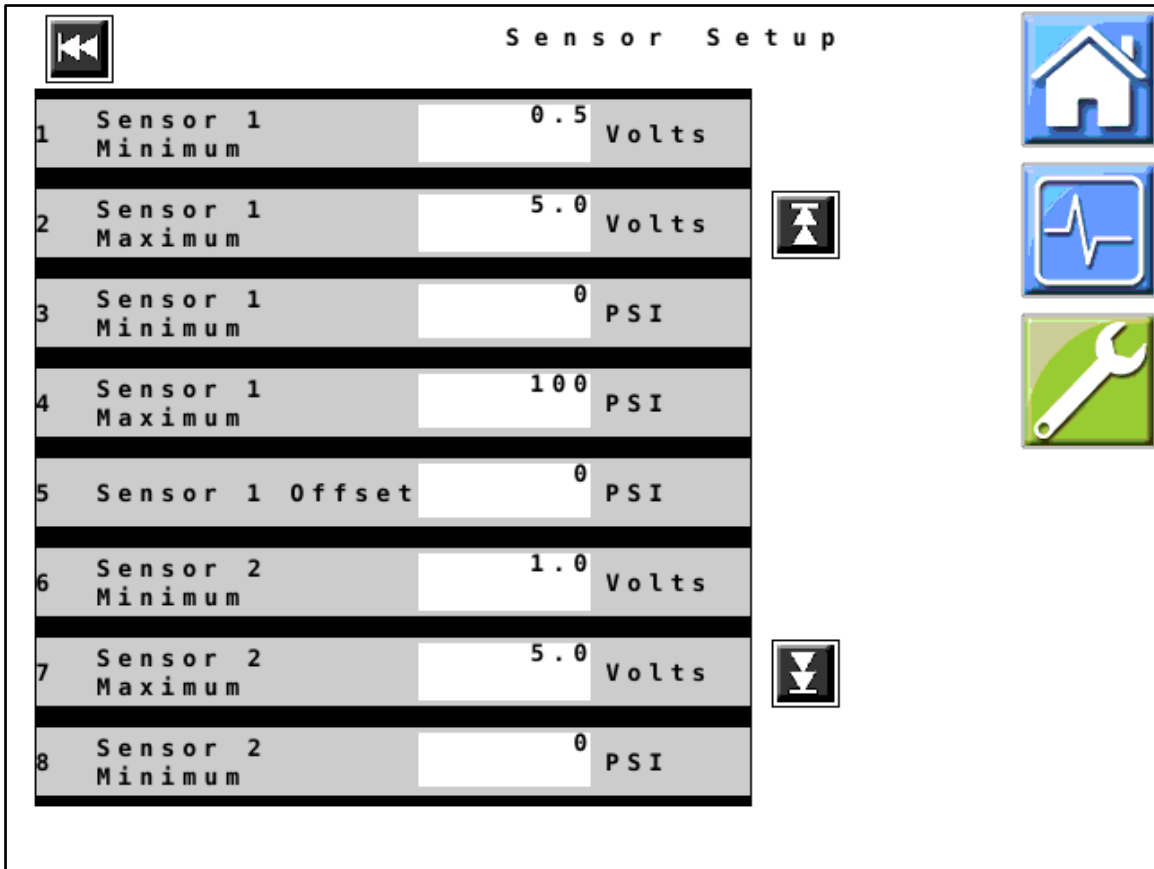

Figure 13 — Sensor Setup Page 1
23. *Figure 13*: Verify that all values displayed on your unit match those shown here. Change values if necessary.